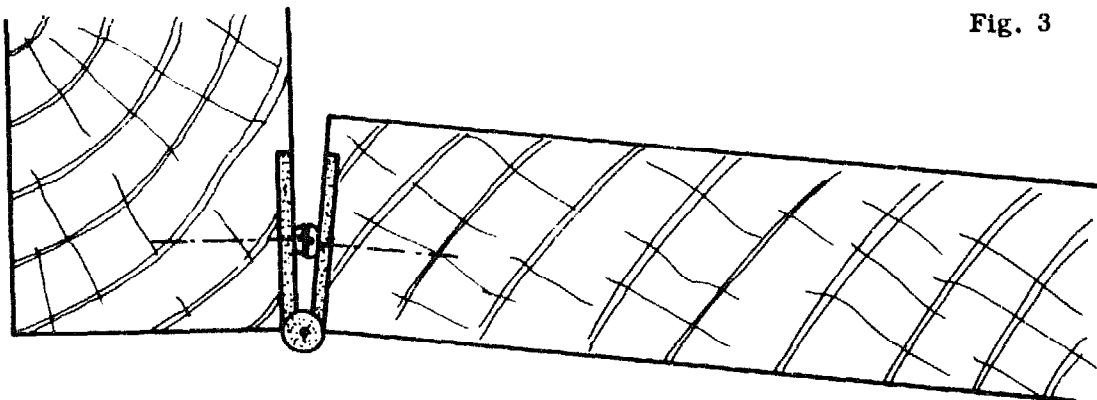

Fig. 4
- f. Chisel the recesses for the hinges in the door, and fix each hinge with one screw (Fig. 4).
- When the hinge is screw bound, the heads of the screws obstruct the door so that it can't close properly. This is often the case when the screws are too thick for the hinges, or the heads are too large. The only remedy is to fix the correct screws (Fig. 4).